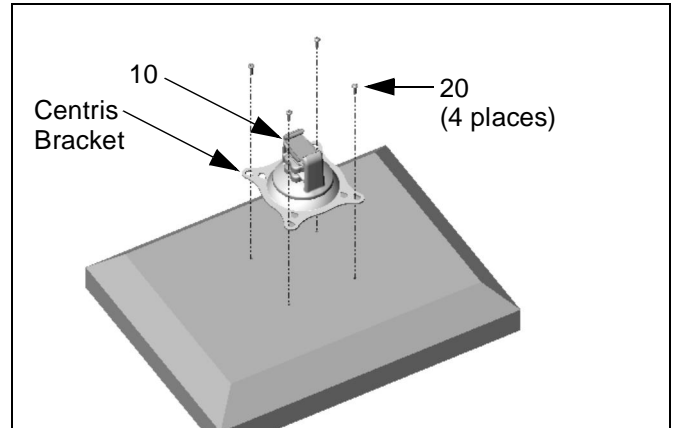

Figure 13: Dual / Triple Display - Flush Mount
4. Using Phillips screwdriver, install four screws (20) through the mounting holes in Centris bracket into the display (See Figure 13). Tighten all four screws (20). Do not overtighten!